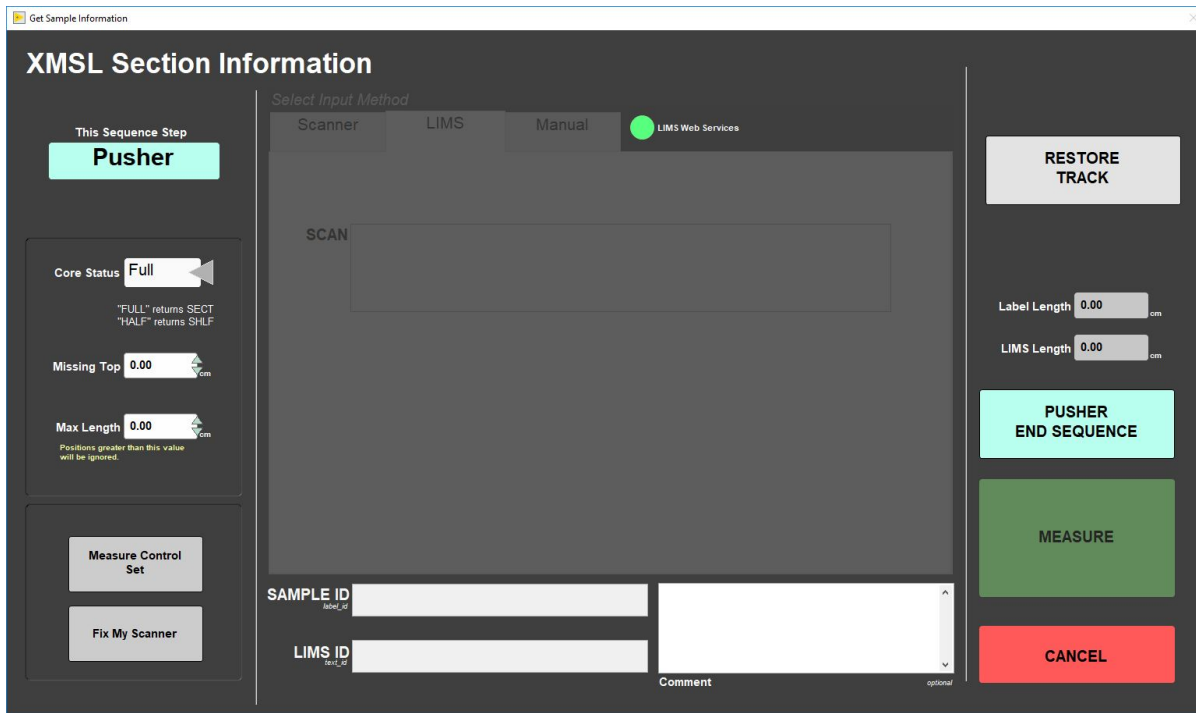

Figure 19. Sample Information Window- Pusher End Sequence View.
6. The Sample ID information window will reappear on the screen (Figure 19).